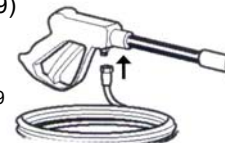

Fig. 9
2. Then attach the other end of the high pressure hose to the high pressure hose connector on the trigger gun. (Fig. 9)